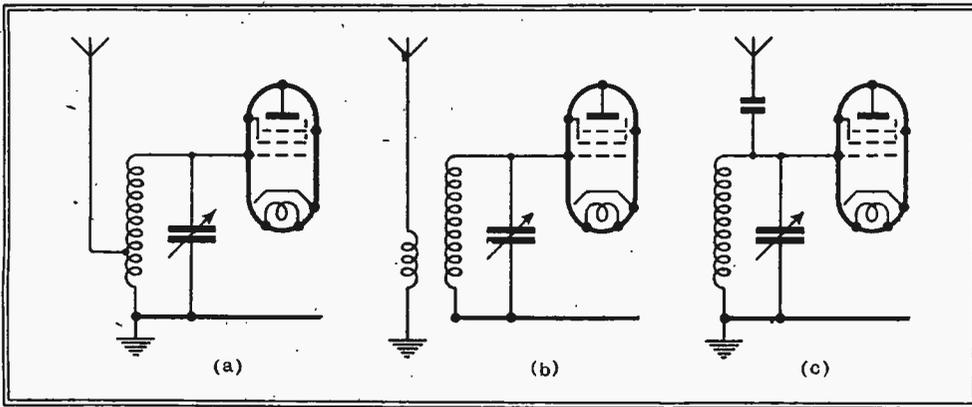

Fig. 2.—Alternative methods of coupling an aerial to the tuned circuit.
We have now got to the root of the matter—aerial coupling. Even a small aerial is too much to connect straight to the grid of the first valve. There is some looseness of coupling, obtained by tapping across only a portion of the aerial coil, or by connecting the aerial to a separate coil which may have only a few turns, or by putting a condenser in series as shown in Fig. 2. There are many variations and combinations of these, but they all have the following effects: (1) the resistance, loss, damping, or whatever you like to call it, on the first tuned circuit is reduced and its selectivity improved; (2) less of the signal voltage picked up by the aerial is passed on to the receiver; (3) the portion of the aerial capacity thrown into this circuit is reduced, and it is easier to gang it with others.
And it also makes it important to find out whether the *method* of coupling affects this side of the problem. It does. If in each method the capacity thrown into the tuned circuit by the aerial is restricted to a small amount, as is compulsory in a gang-tuned set, the inductive coupling shown in Fig. 2 (a) and possibly also (b) gets far more signal across than the capacity method (c). Fig. 4 shows the result of an actual measurement of the voltage across a typical tuned circuit due to London Regional. Suppose the mistuning capacity is to be restricted to 5 $\mu\mu\text{F}$, inductive coupling gives over 0.75 volt, and capacity coupling barely 0.15!
system that is easy to add and adjust external to the receiver; to tap the coil one must be able to get at it. Just what can be done depends on the exact nature of the coupling system already in use; any detailed instruction I might give would be as likely to mislead as to help. It is quite common nowadays to have Fig. 2 (b) with a "high-peaked" primary coil—one resonating at a longer wavelength than any in the band covered—to help keep the sensitivity level over the waveband; but this does not necessarily make a large aerial undesirable.